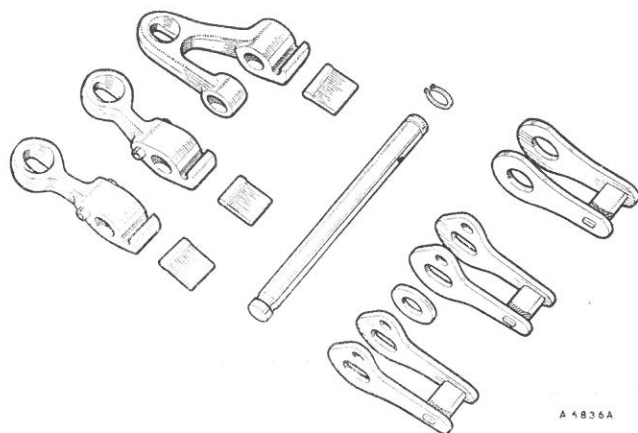

Fig. Fa.46
- (6) Lubricate the seals and fit the pistons into the correct bores (lips of seals facing downwards).
- (7) Assemble the springs and cover.
- (8) Hold the cover in position and fit the drive screws.
- (9) Assemble the struts, washer(s), reaction levers, and servo levers, in the reverse order of dismantling Figs. Fa.46, 48 and 49).
- (10) Insert the centre shaft with the cutaway in the shaft correctly positioned.